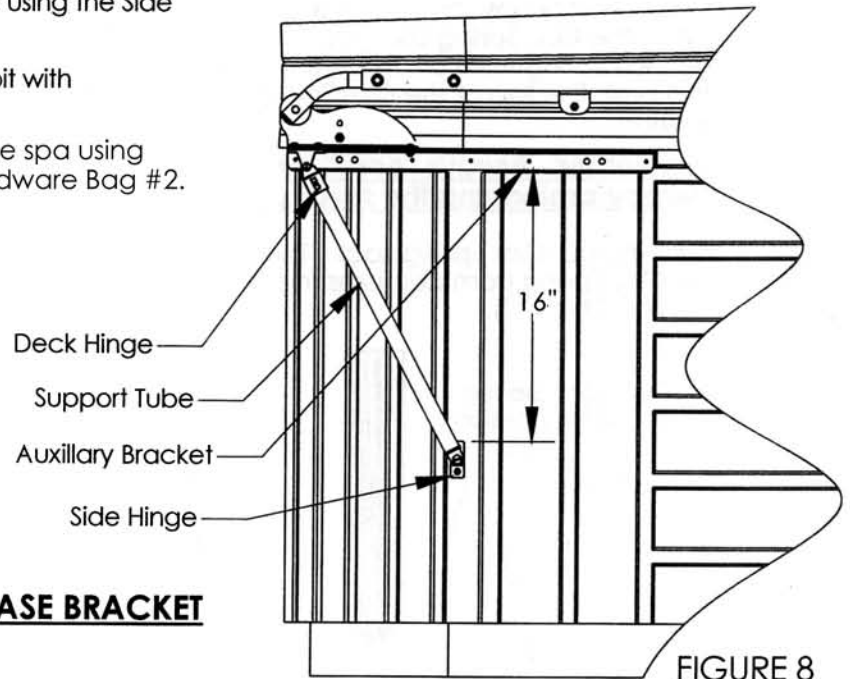

FIGURE 8
- A. To attach the Support Tube to the side of the spa, swing the Support Tube forward until the distance from the bottom of the Auxiliary Bracket to the top of the Side Hinge is approximately 16" as illustrated below in Figure 8(Left side is shown). Note: The 16" location may place the Side Pivot Bracket on a wood seam. Move the Support Tube slightly in either direction if this condition exists.
- D. Attach the Side Hinge to the side of the spa using (2) #10 x 2" Flat Head Screws from Hardware Bag #2.